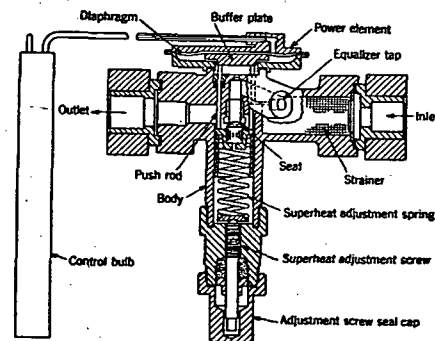

FIG. 13. TYPICAL THERMOSTATIC EXPANSION VALVE
*Thermostatic Expansion Valves.* A thermostatic expansion valve controls the flow of liquid refrigerant to the evaporator so as to maintain the entire coil filled with evaporating refrigerant, and to keep a constant superheat in the refrigerant gas leaving the coil. The construction of such a valve is shown in Fig. 13 and is similar to that for an automatic expansion valve but incorporates, in addition, a power element responsive to changes in the degree of superheat of the refrigerant gas leaving the coil. This power element consists of a bellows connected by means of a capillary tube to a feeler bulb fastened to the suction line from the evaporator. The bulb, bellows, and tube are usually charged with the same liquid refrigerant used in the evaporator itself. A starved condition in the evaporator results in a greater superheat in the gas leaving the evaporator, and this in turn operates through the power element to increase the flow of liquid refrigerant. A flooded evaporator reduces the discharge superheat, and thus tends to reduce the flow of liquid refrigerant. Such an expansion valve is satisfactory for operation with fluctuating loads since this type of control tends to keep the evaporator filled with refrigerant at all times.